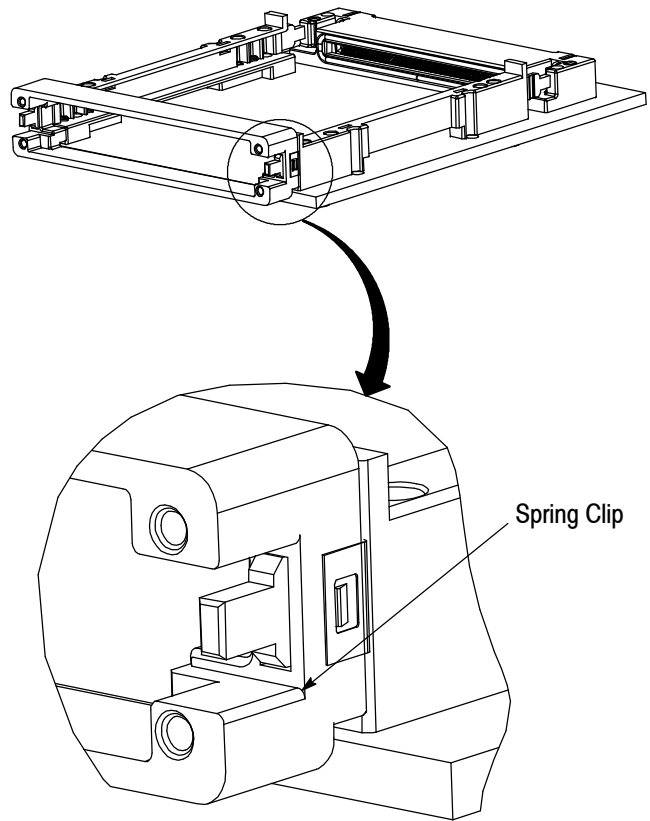

Figure 9
5. Place the backer plate onto the guide rails, with the side of the plate that has the pc board clearance cut facing down toward the pc board. The arms of the rail fit through the slots on the plate. The spring clips on the backer plate will hold the backer plate on the rails during the rest of the assembly procedure. See Figure 9.